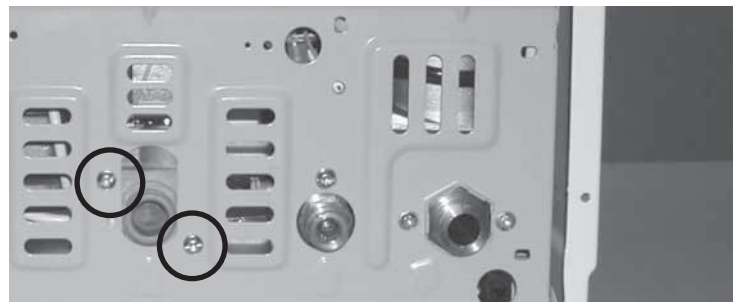

Figure 42
- Remove the gas valve's two securing screws and washers from the bottom side of boiler. (Figure 42)